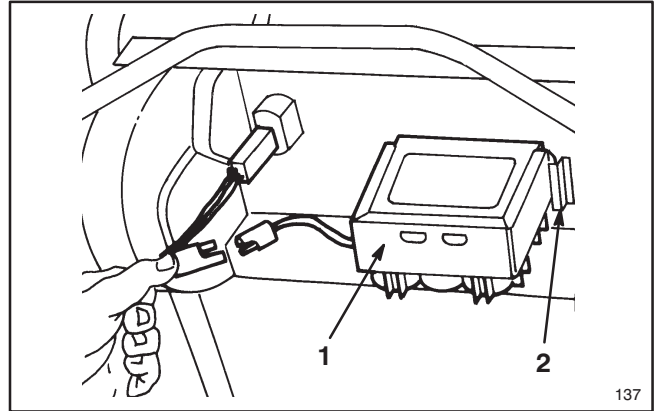

Figure 8
1. Refer to Charging Battery, page 11. Slide battery, decal side facing operator's position, between mounting tabs on back of control panel (Fig. 8).